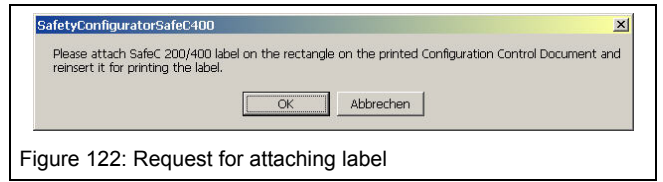

Figure 122: Request for attaching label
16. Confirming the message shown in Figure 122 prints the label.